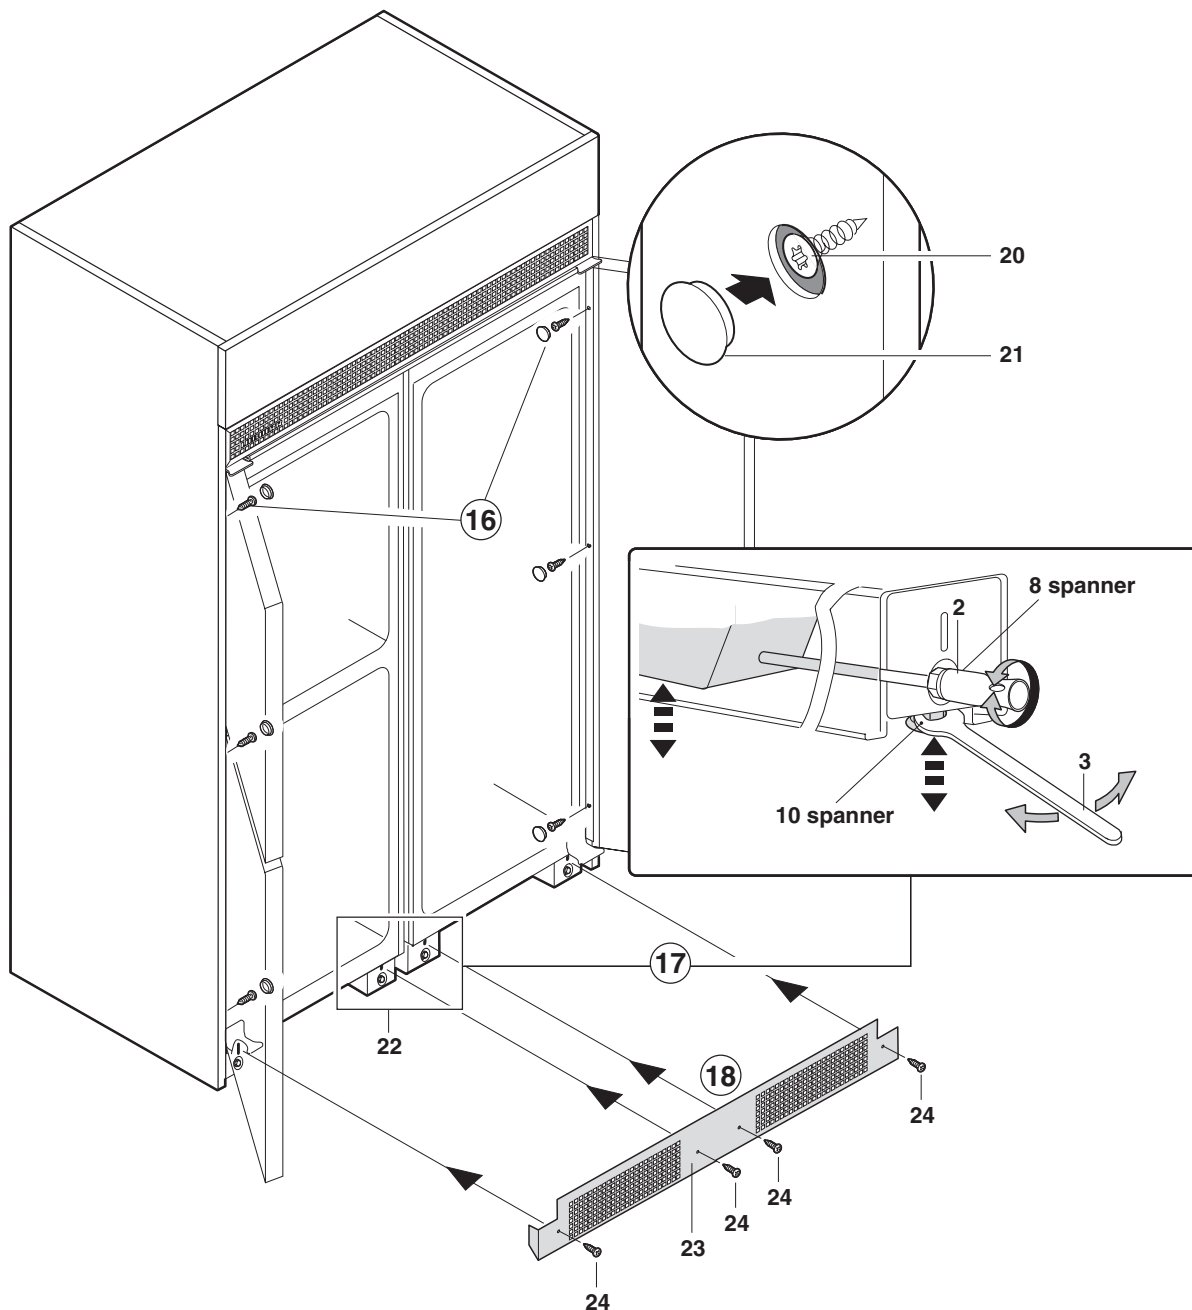

Figure 32
16. **Figure 32:** Attach the aligned combination to the surrounding kitchen cabinet. Secure it through the side frames using the screws (20) provided.
- Cover the screws with cover caps (21).
17. Now adjust the center leveling wheels (22) so that they **make slight contact with the floor**.
18. Fit the lower ventilation grille (23): Secure the ventilation grille so that it touches the floor and adjust it using the slots. Do not overtighten!